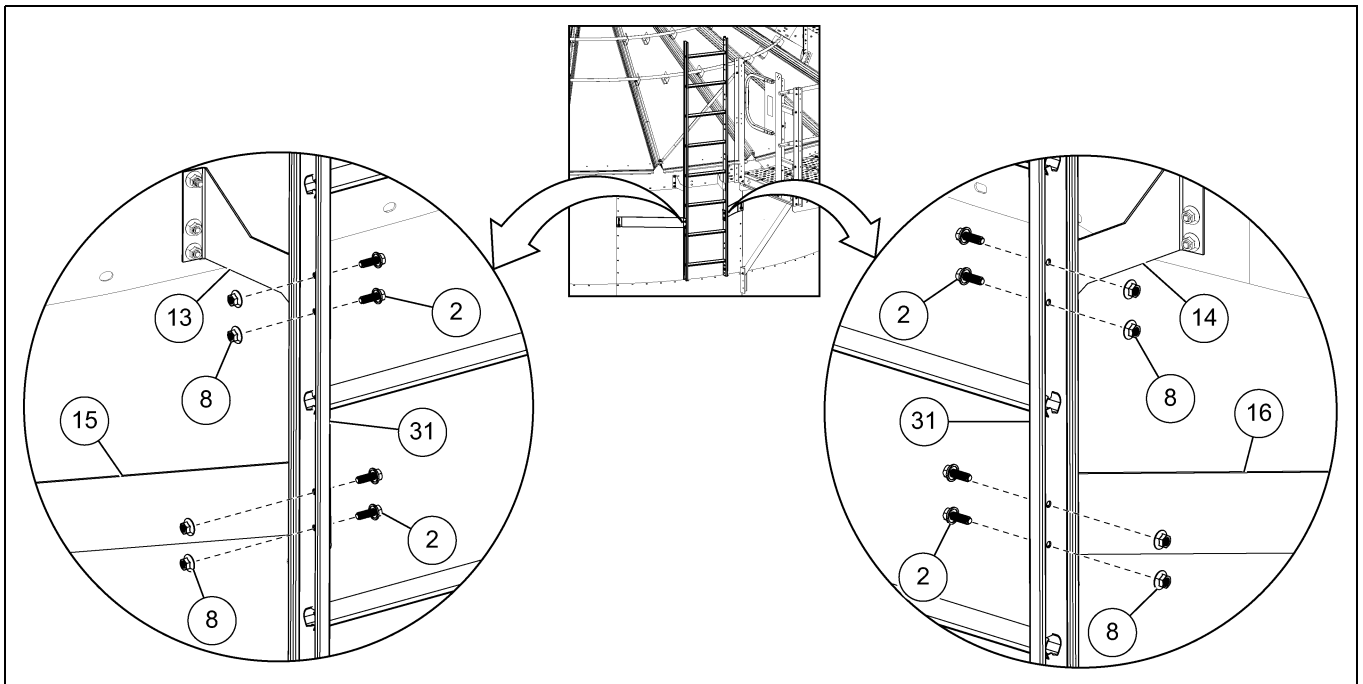

Figure 7C Installing the Ladder Section
- Install the ladder section (31) to the ladder starting brackets (13 and 14) and ladder brace brackets (15 and 16) using 5/16" x 1" flange bolts (2) and 5/16" flange nuts (8). (See Figure 7C.)